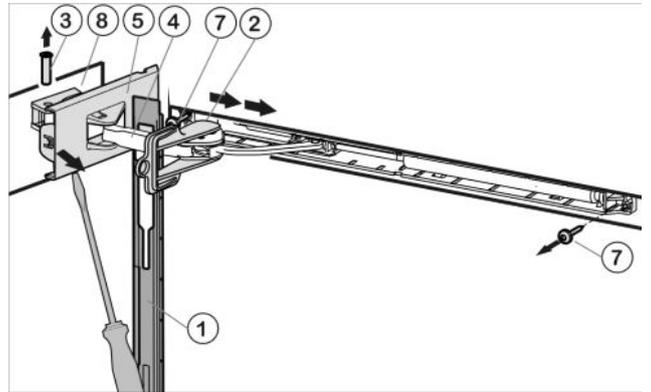

Fig. 5
- ▶ Slide the faceplate forwards over the soft stop bracket Fig. 5 (4) in the direction of the appliance.
- ▶ Snap the safety lock Fig. 5 (2) into the oblong hole.
- ▶ Using a screwdriver, detach the cover Fig. 5 (5) on the hinge side as far as the first detent.
- ▶ Press the pin Fig. 5 (3) out from underneath.
- ▶ Press the soft stop bracket Fig. 5 (4) towards the door.
- ▶ Fully detach the cover Fig. 5 (5) on the hinge side and remove it.
- ▶ Remove the faceplate Fig. 5 (1).
- ▶ Unscrew the soft stop unit (2x Torx® 15) Fig. 5 (7).
- ▶ Unscrew the bearing element Fig. 5 (8), turn it 180° and transfer it to the opposite side. Possibly make preliminary holes with a bradawl or use a cordless screwdriver.